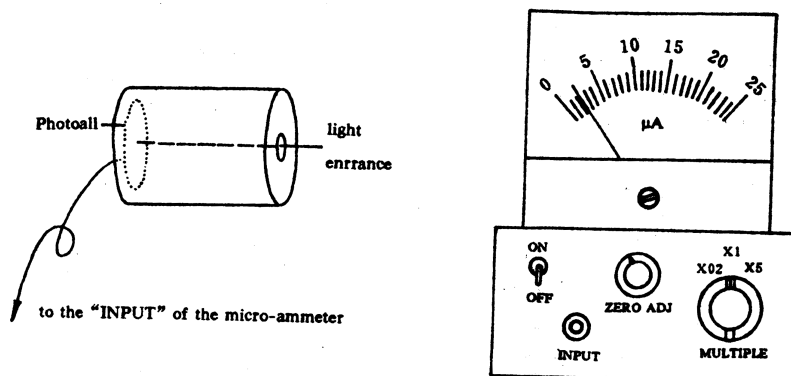

Fig. 2 Light intensity detector
3. Two light intensity detectors (D_1 , D_2) which consisted of a photocell and a microammeter (Fig. 2).